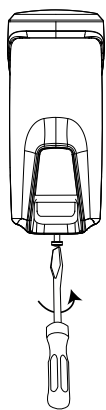

Figure 10 - Unscrewing the bracket
1. To separate the detector from the mounting bracket, unscrew the bottom screw (see Figure 10) and remove the detector from the bracket (see Figure 11).